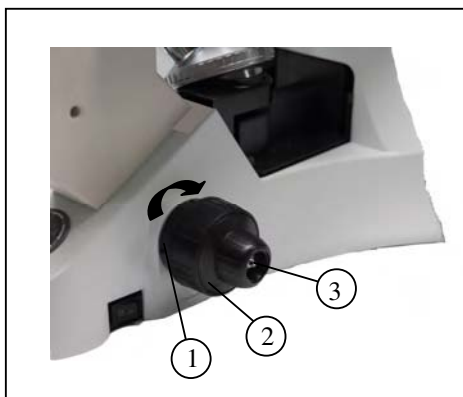

Figure 18
4-1-3 Adjusting the Tension Adjustment Collar (Figure 18)
Rotate the tension adjustment collar ① in the direction shown by the arrow (Figure 18) to increase the tension of the coarse focus knob ②. Rotating the collar in the opposite direction will decrease the tension.